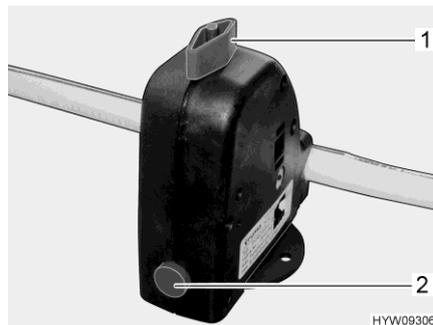

Fig. 190 Safety/drainage valve (Truma)
- Close the safety/drainage valve (Truma). Turn the knob (Fig. 190,1) perpendicular to the safety/drainage valve and push the push button (Fig. 190,2) in.